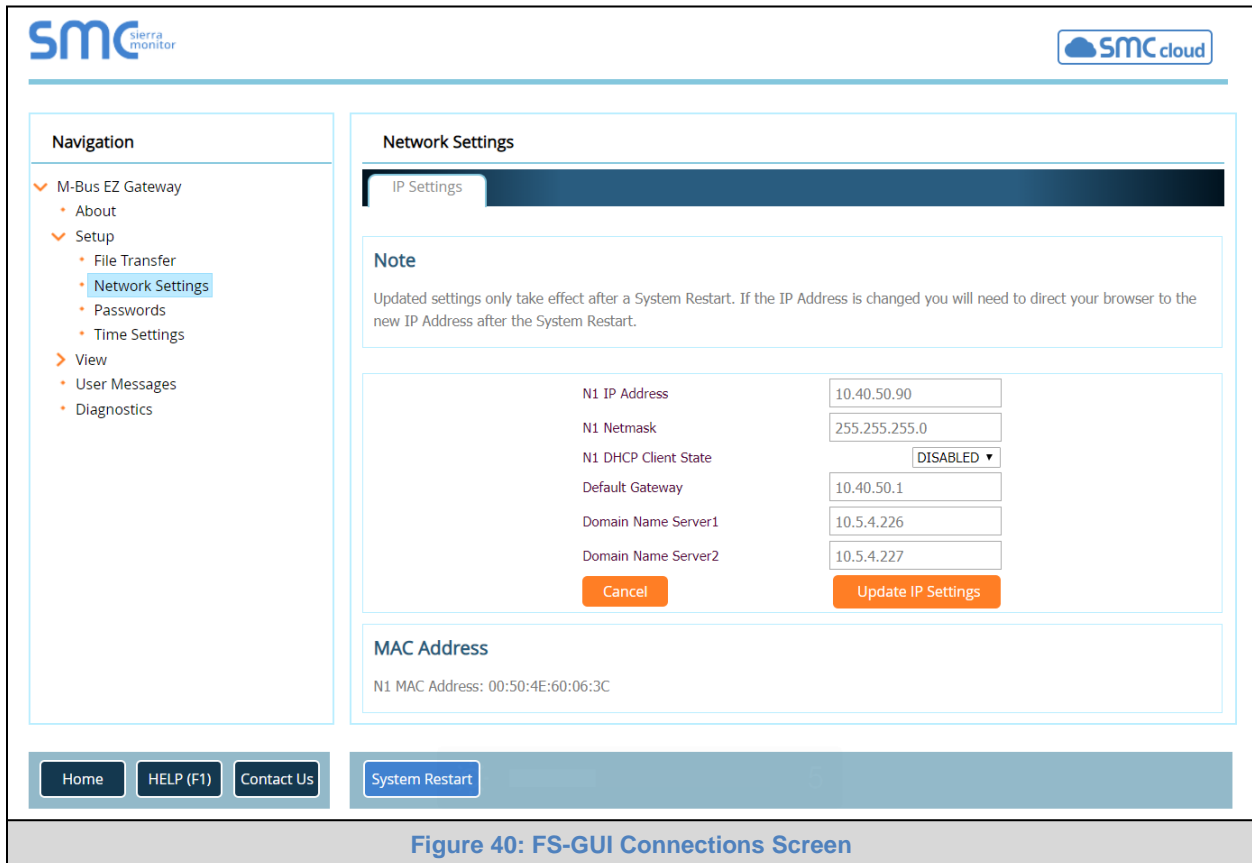

Figure 40: FS-GUI Connections Screen
**NOTE:** The SMC Cloud button  (see Figure 40) allows users to connect to the SMC Cloud, MSA Safety’s device cloud solution for IIoT. The SMC Cloud enables secure remote connection to field devices through a FieldServer and its local applications for configuration, management, maintenance. For more information about the SMC Cloud, refer to the SMC Cloud Start-up Guide.